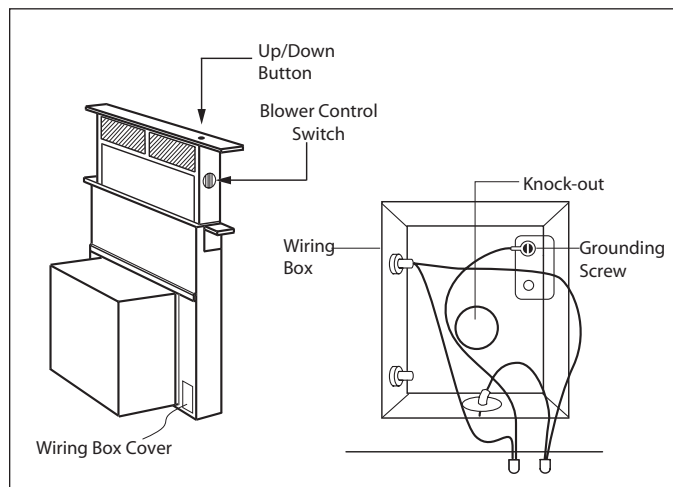

FIG.11
- 12) Turn the power supply on. Push and hold the Up/Down button momentarily. The downdraft will rise out of the countertop and stop in the fully extended position. Position the top strip over the the top of the downdraft, lining up the fixing hooks and the hole for the push button. Snap into place. Turn the blower on. The blower control switch is located on the right hand side of the plenum as indicated in Fig. 11. If the blower does not work, refer to section entitled "If The Blower Does Not Operate" located on page 11"